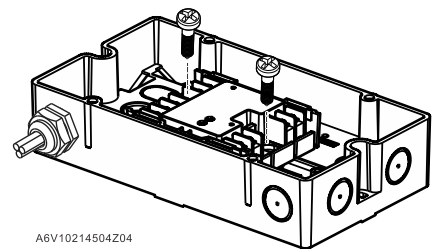

Fig. 3
- in FDCH221 housing (Fig. 3) (Order the accessories FDCH221 separately.)
5. Use two M3 x 12 screws to fit the module in the housing (Fig. 3).